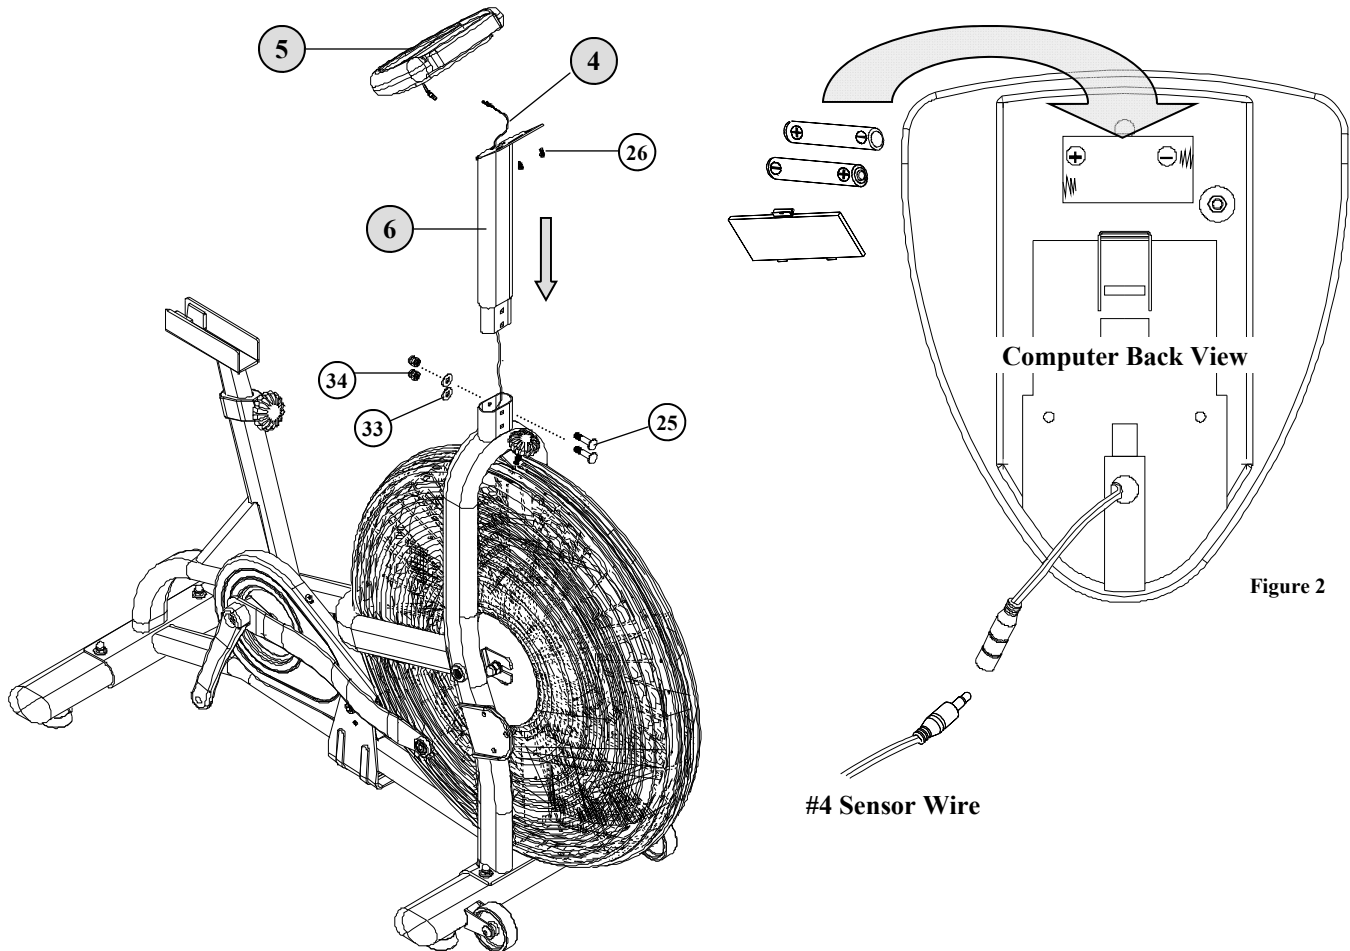

Figure 2
- B) Install (2) **AA Batteries** into the back of the **Computer** (#5), as shown in **Figure 2**. Connect the **Sensor Cable** (#4) to the receptacle end of the **cable** coming from the back of the computer. Tuck the excess **cable** length into the mast and slide the computer onto the mast mounting plate. Secure the computer in place using **2-Pan Head Screws** (#26).